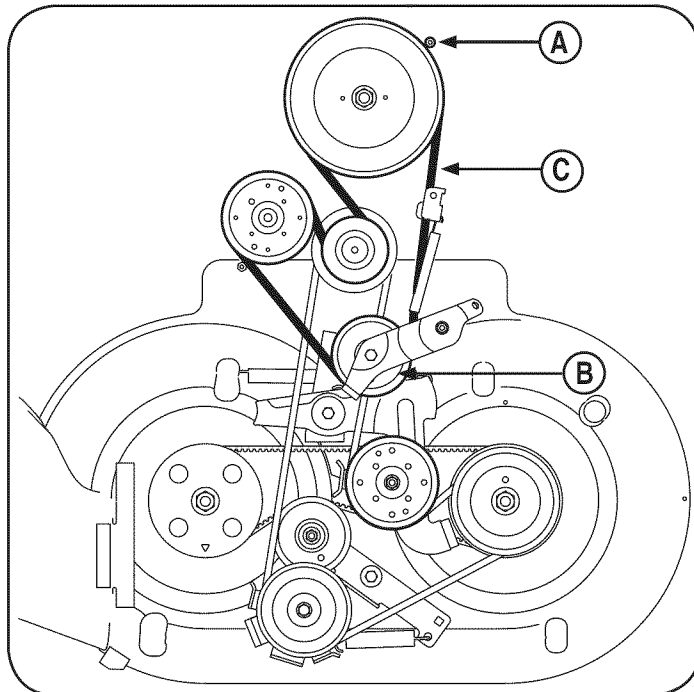

Figure 22
4. Loosen belt keeper (A). The belt keeper is attached to the underside of the mower frame, Figure 22.
5. Loosen the idler pulley (B) by loosening bolt and nut, Figure 22.
6. Remove belt (C) from around pulleys, Figure 22.